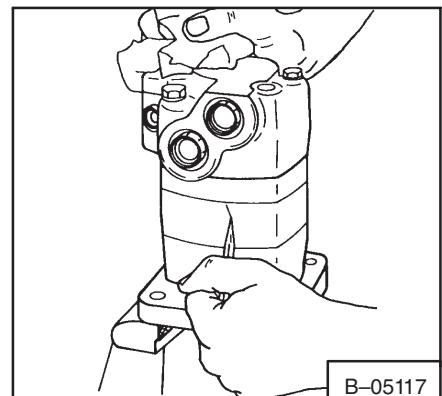

Fig. 3-35 Marking Motor Section
1. Use a puller to remove the chain sprocket from the motor shaft. Put the motor in a vise, holding it by the mounting flange with the shaft in the down position. Put a mark across the motor sections for correct assembly (Fig. 3-35).